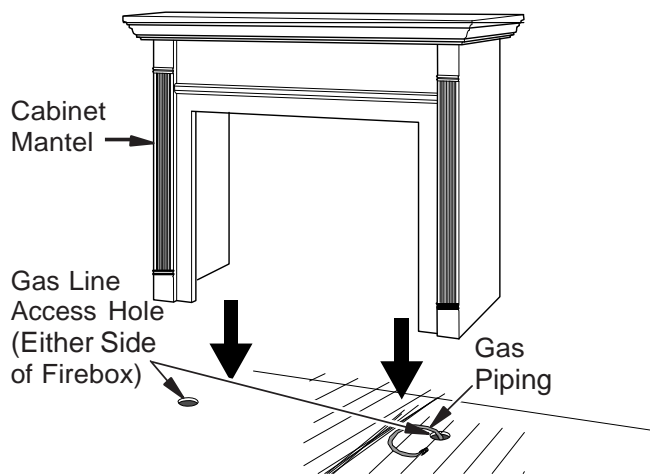

Figure 11 - Installing Cabinet Mantel (Mantel May Vary From Illustration)
2. Install gas piping to firebox location. See Gas Line Installation on page 11. You may have to cut an access hole in the floor or wall to run gas line to firebox. Make sure to locate access hole so cabinet mantel will cover it when installed (see Figure 11).